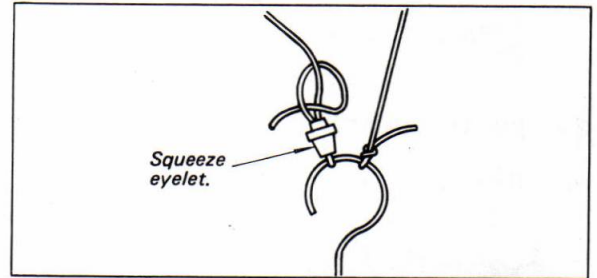
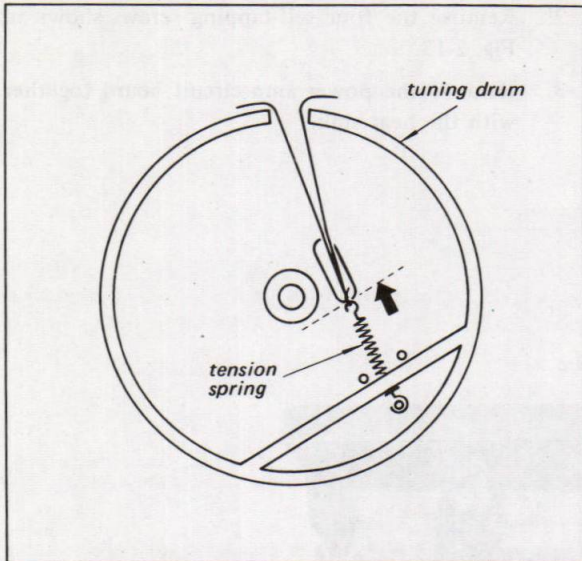

Fig. 2-8. Dial cord finish
Fig. 2-9. End of dial cord stringing
3. At the finish point, pass the doubled end of the cord through the eyelet and tighten the cord and squeeze the eyelet so that the spring is under tension (See Fig. 2-8).
Note: The end of spring should be near the center of tuning drum as shown in Fig. 2-9. Make two knots in the cord to keep it from slipping out of the eyelet (See Fig. 2-8).